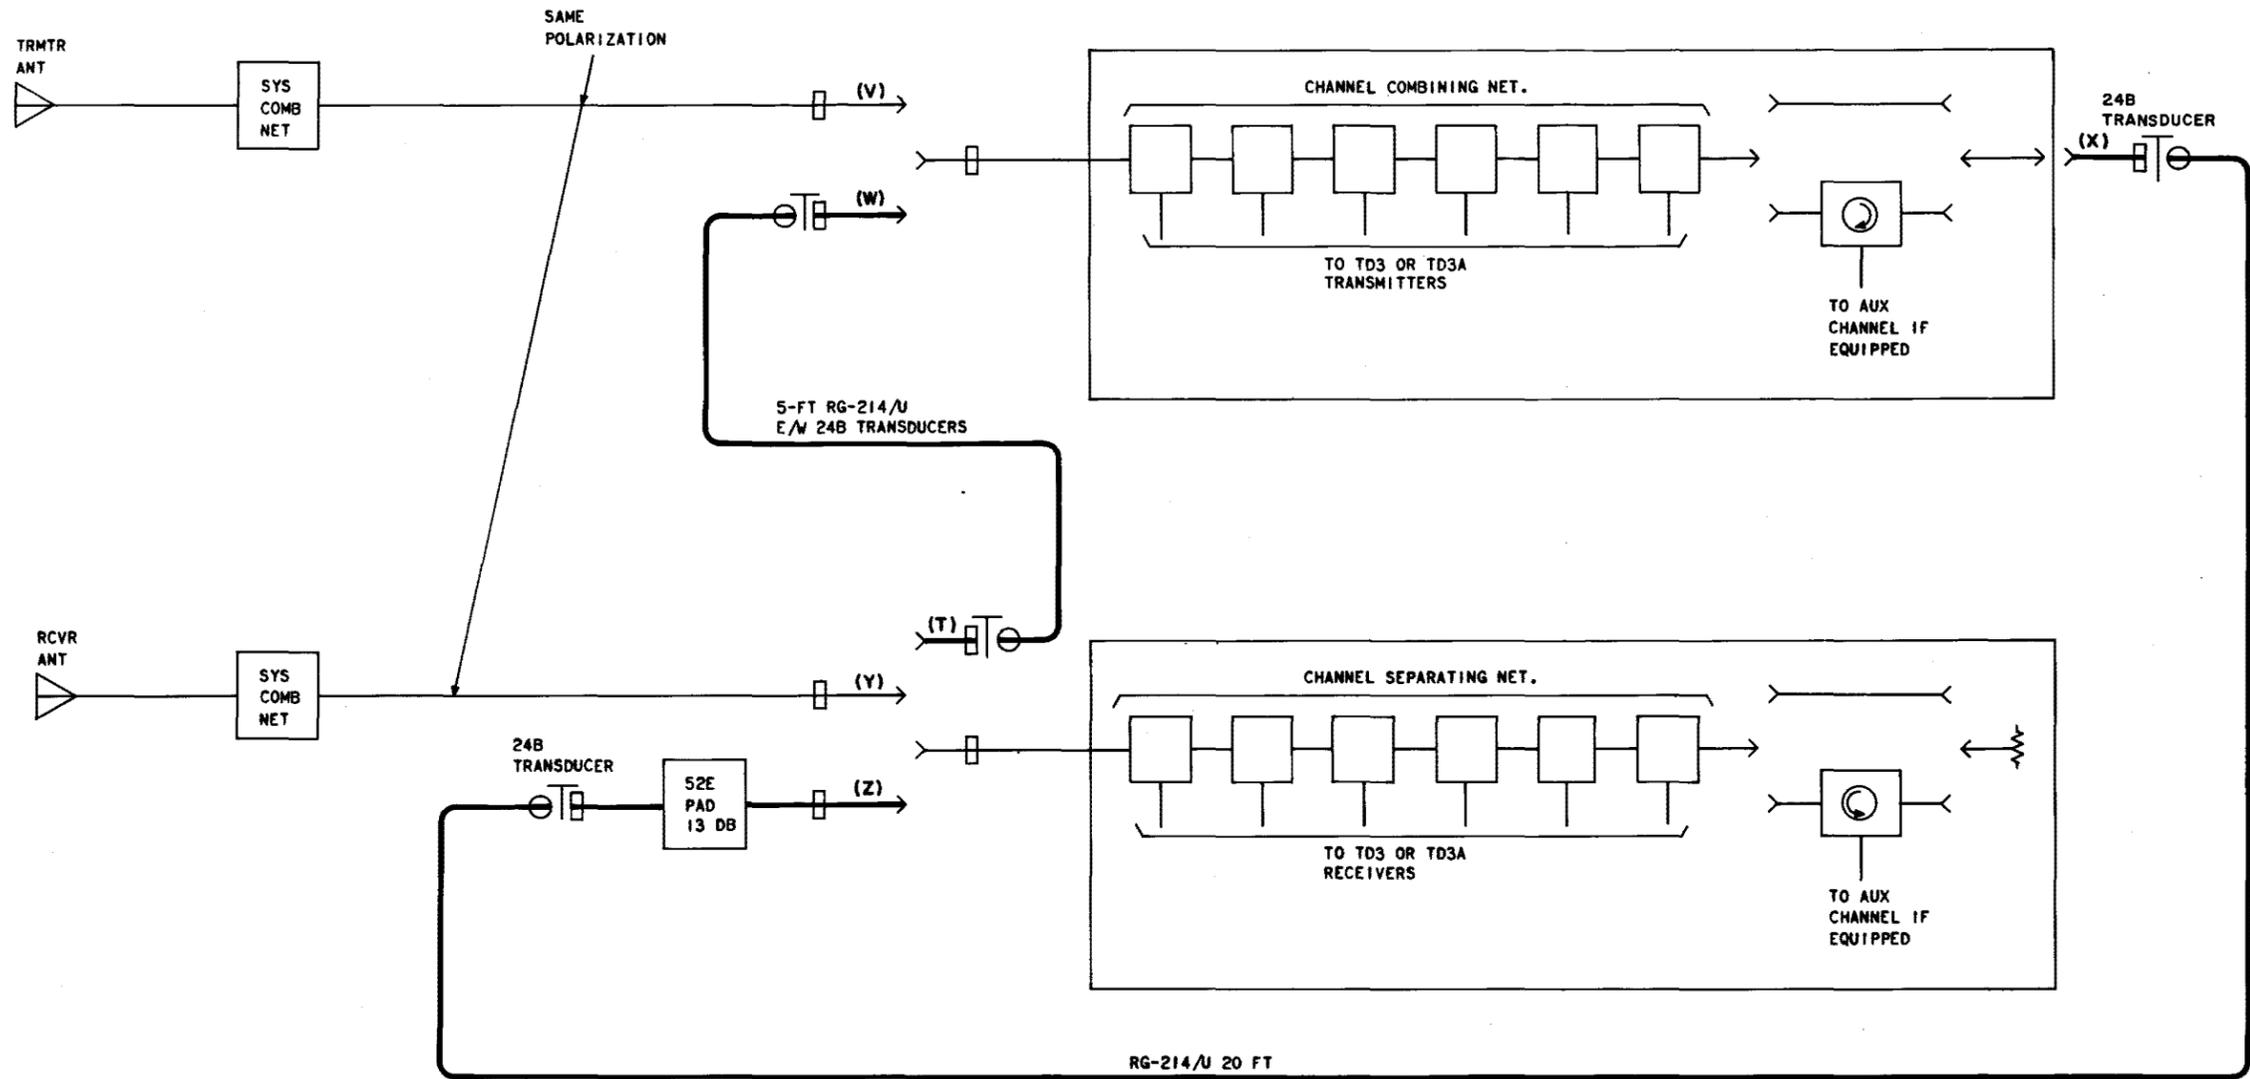
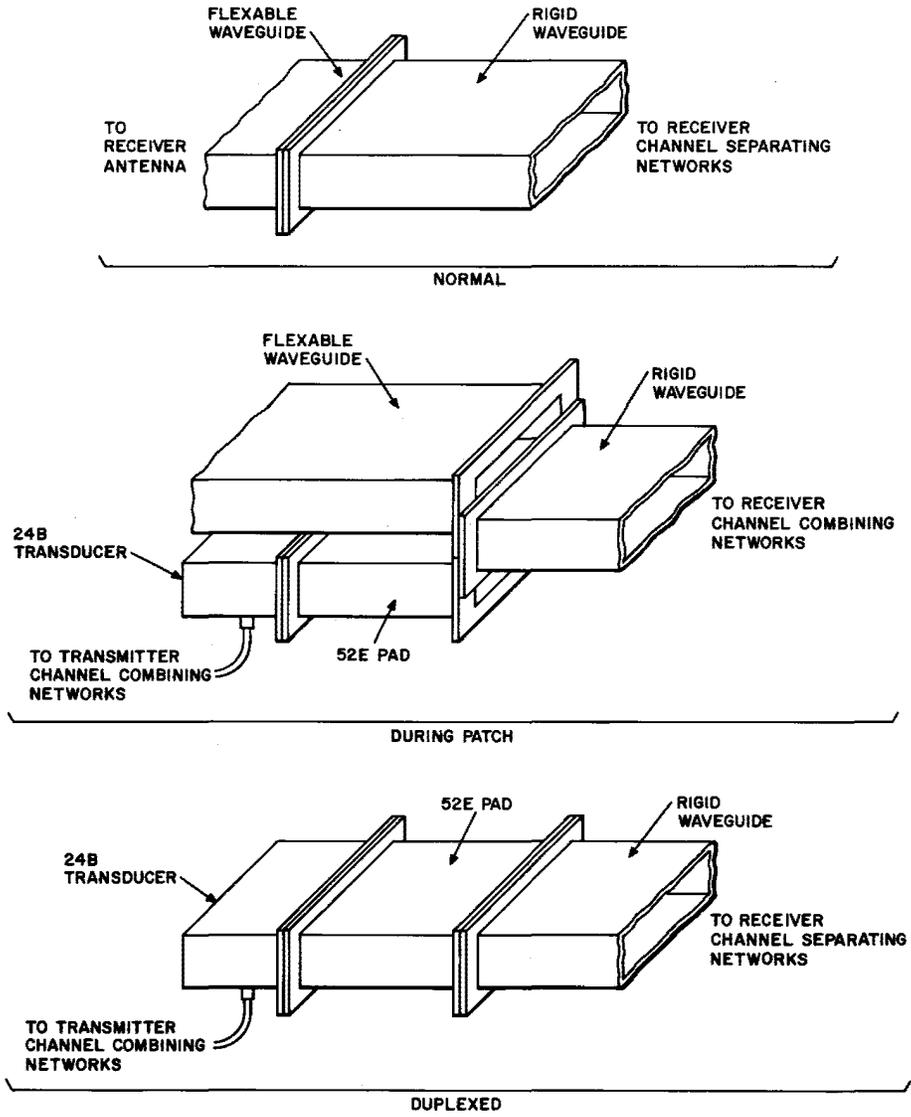
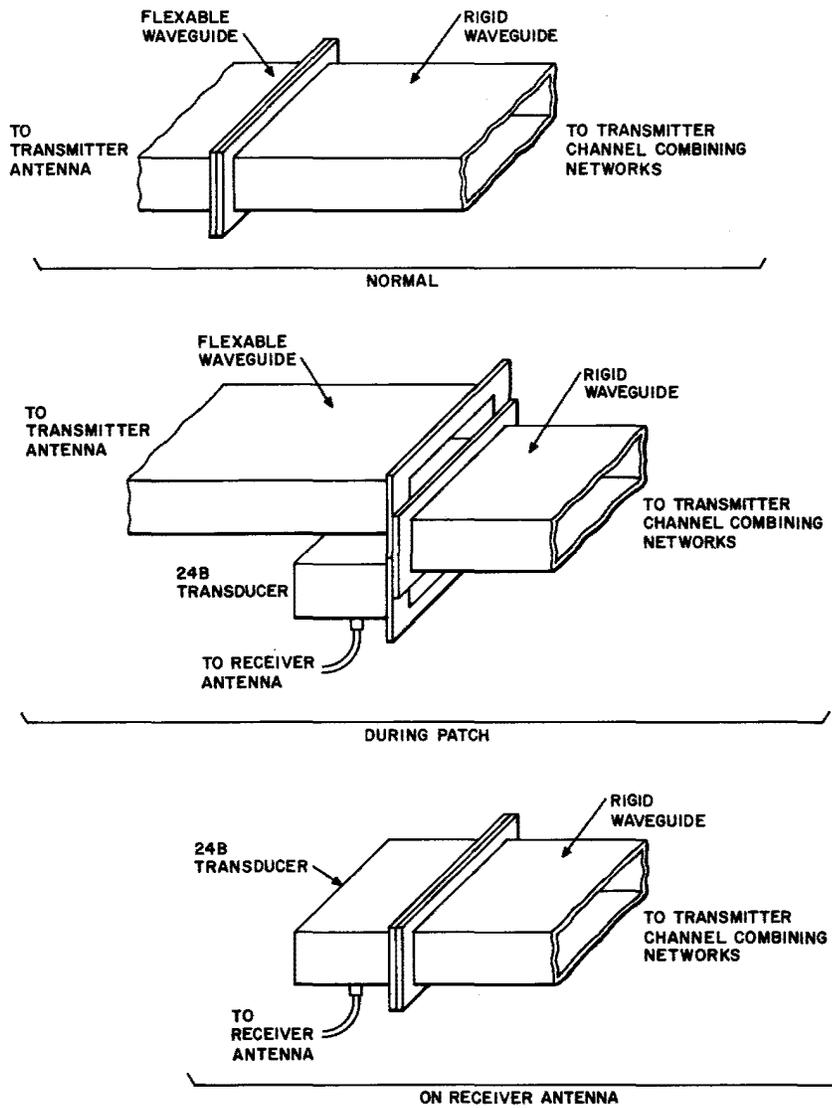

Fig. 5—Waveguide Rearrangement
Fig. 6—Hot Patch to Transmitter Antenna
Fig. 7—Hot Patch to Receiver Antenna
3	Connect the other end of the 20-foot cable to the 52E pad and 24B transducer as shown in Fig. 5, option (X).
5	<p>Disconnect option (Y) and establish option (Z), Fig. 5.</p> <p>Note: This hot patch can only be made where a rigid waveguide section mates with a flexible waveguide section as shown in Fig. 6.</p> <p>Caution: The receiver must be connected to the transmitters operating on the same polarization.</p>
8	<p>Connect option (T) to option (Y), Fig. 5.</p>
9	<p>Connect option (W) and disconnect option (V) as shown in Fig. 7.</p> <p>Caution: An RF radiation hazard may exist (See Sections 010-150-001 and 010-150-002).</p>
2	<p>If the transmitters and receivers were connected to the receiving antenna (Chart 3, Step 7 through 10), connect option (V) of Fig. 5 and disconnect option (W) of Fig. 7.</p>
4	<p>Disconnect option (T) of Fig. 5.</p>
5	<p>Hot patch the vertically polarized receivers to the vertically polarized receiving antenna by connecting option (Y) of Fig. 5 and disconnect option (Z), Fig. 6.</p>